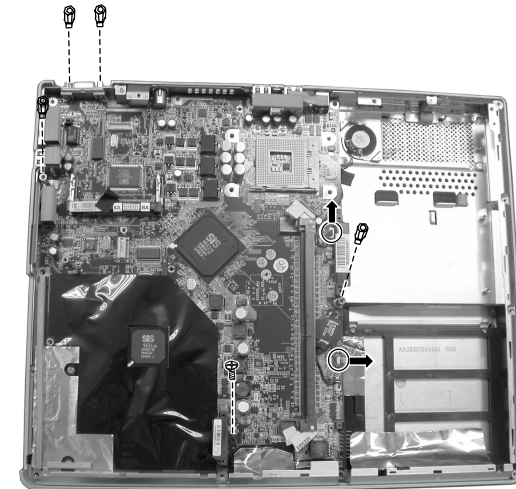

Figure 2-27 Free the system board
3. Disconnect the speaker's cable and the touch pad's cable from the system board. To free the system board, please remove one screw and four hex nuts that fastening the system board. (Figure 2-27)